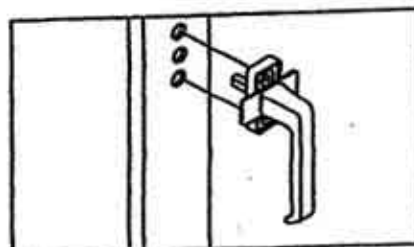

Figure 4-3. Handle in the Lock position
- 2.3 Lock position: install the SA-FE-Handle on the sash in the vertical Lock position, with the handle pointing down. Insert the shaft into the center hole. See fig. 4-3.